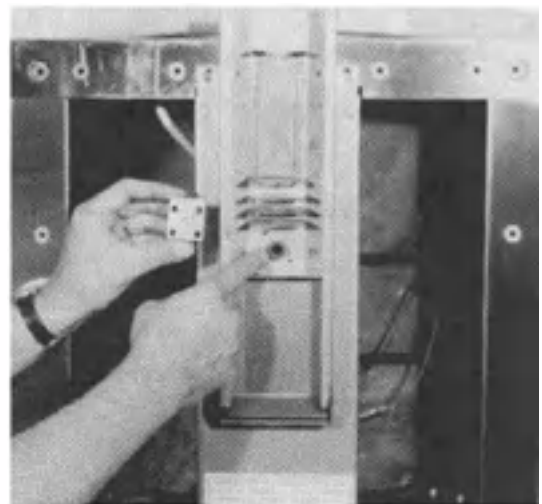

FIG. 11
8. Remove vent tube O-ring and save for reuse (See Figure 11).
9. Remove the four (4) screws securing vent assembly to rear of fryer and save for reuse. Leave vent block nut plate of vent tube for further use.
10. Line up hole in new vent assembly with vent tube and replace the four (4) screws securing assembly to rear of fryer.